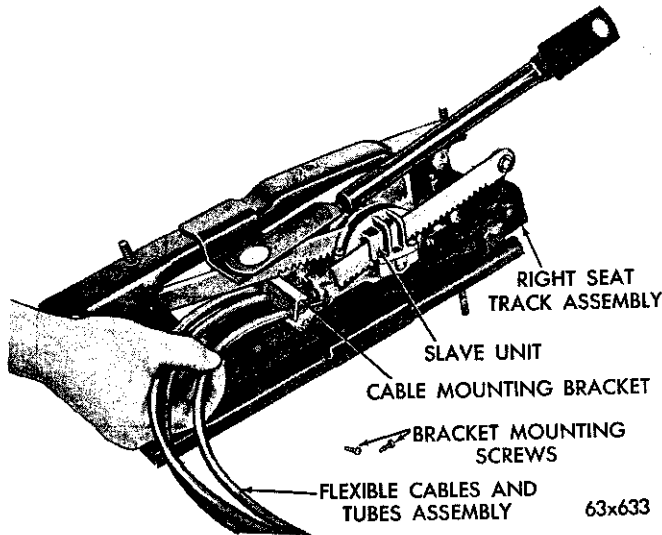
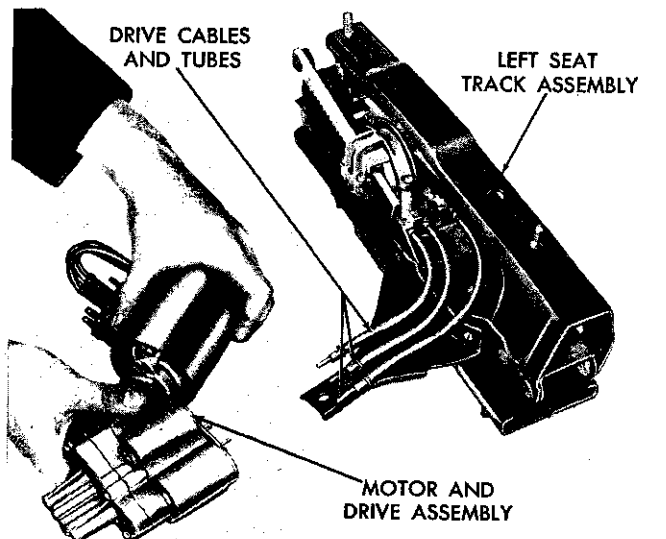

Fig. 3—Removing Cables From Right Slave Unit
Fig. 4—Removing Drive Assembly from Left Slave Unit
- (5) Pull the flexible cables from the right side tubes (Fig. 3).
- (6) Remove the bolts that hold the motor and drive assembly to the left guide bracket.
- (7) Remove the drive assembly with tubes from left slave unit (Fig. 4).
- (8) Remove the flexible cables from the tubes.